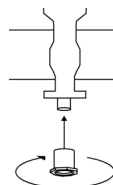

Figure 8
8. (figure 8) Screw a brass coupling onto existing threaded center connector of ceiling fixture. You will need to leave some of the threading in the bottom of the brass coupling available for the next step.